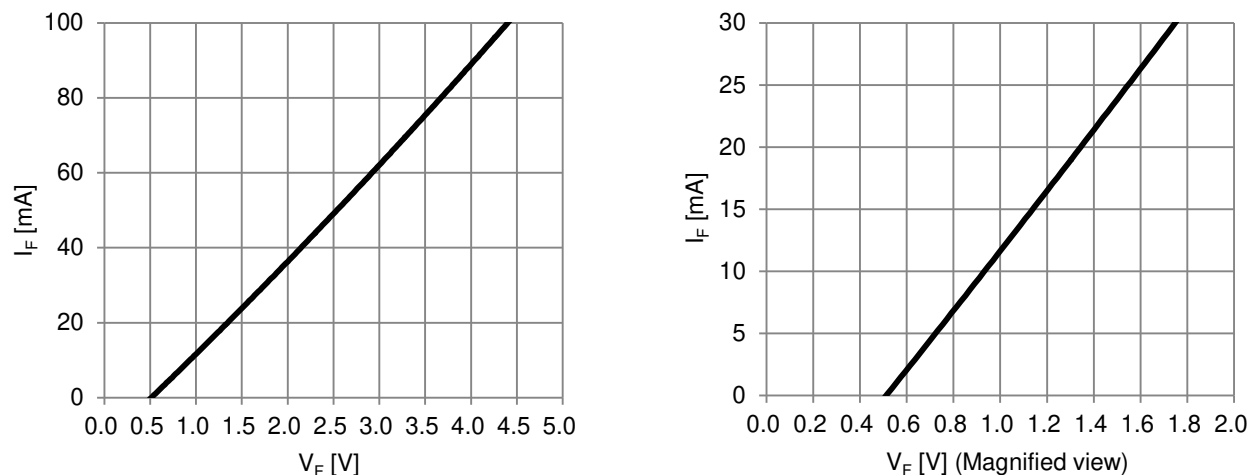

Figure 2. Built-in Bootstrap Diode V_F - I_F Characteristic (@ $T_A=25^\circ\text{C}$)
6. The characteristics of bootstrap diodes are described in Figure 2.